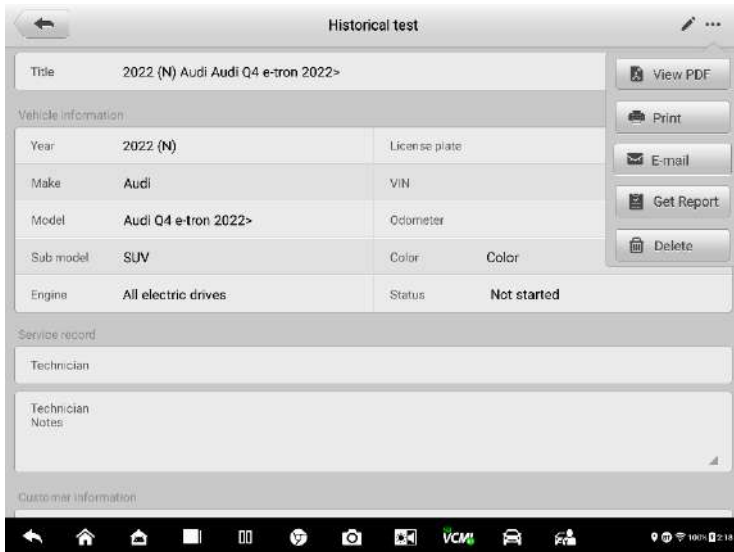

Figure 4-37 Historical Test Screen
1. Tap **Get Report** to save the report on the Historical Test screen (Figure 4-37).